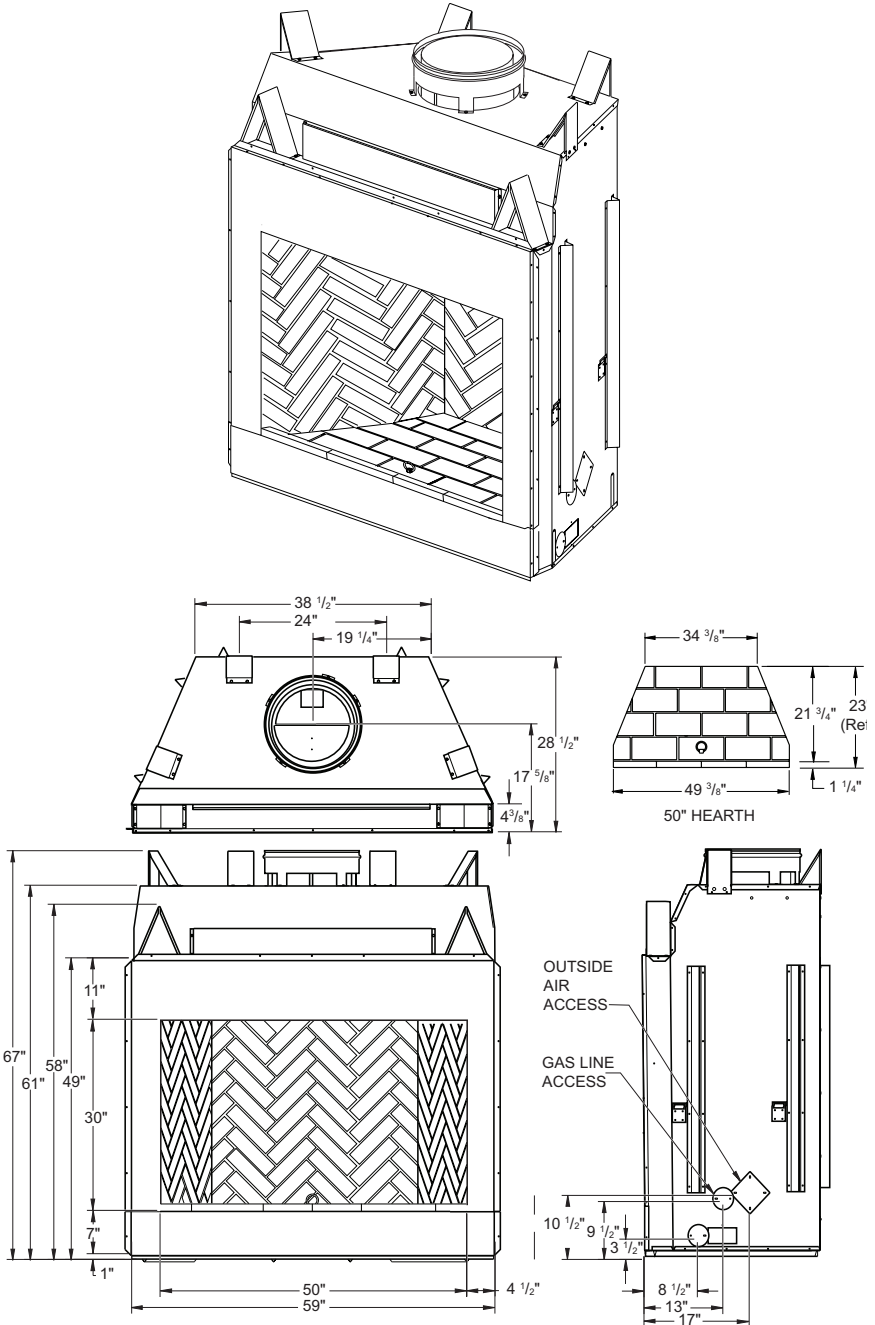

Figure 2 - 50" Models (V)GMCAT50(H,S)(I,R)A AND (V)JMCAT50(H,S)(I,R)A Series
1. Frame opening for fireplace using dimensions shown in Figures 2 and 3.